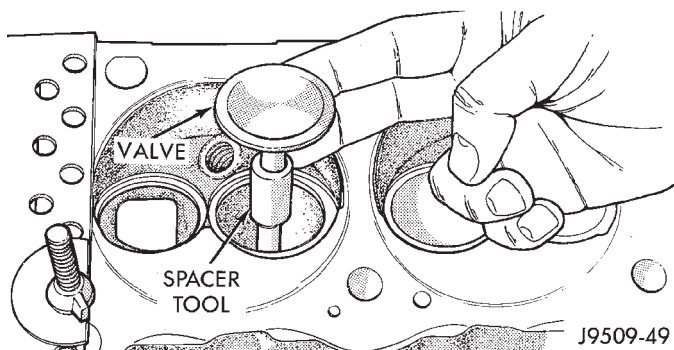

Fig. 56 Positioning Valve Spacer Tool (Typical)
(1) Install Black Valve Guide Sleeve Tool C-6819 over valve stem for the **INTAKE** valve and install valve (Fig. 56). The special sleeve places the valve at the correct height for checking with a dial indicator.
(2) Install Silver Valve Guide Sleeve Tool C-6818 over valve stem for the **EXHAUST** valve and install valve. The special sleeve places the valve at the correct height for checking with a dial indicator.